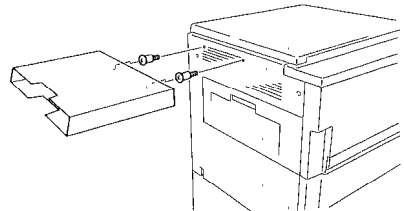

Figure 5-30
- 1) Fit the mounting screws in the holes shown, and attach the document tray; see Figure 5-30.